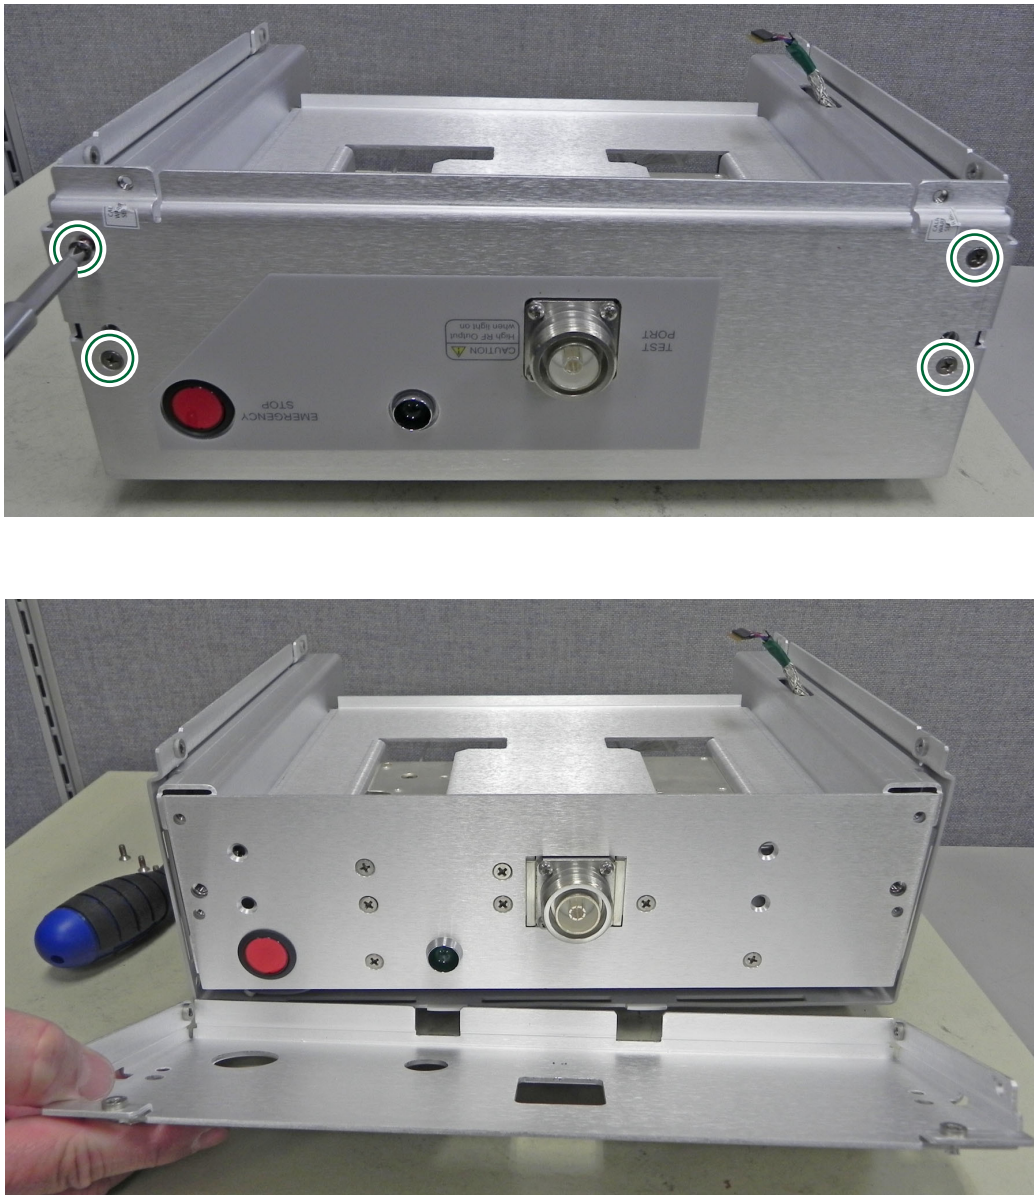

Figure 5-25. Remove Top Panel Screws
7. Remove the 4 screws holding the top panel cover (Figure 5-25).